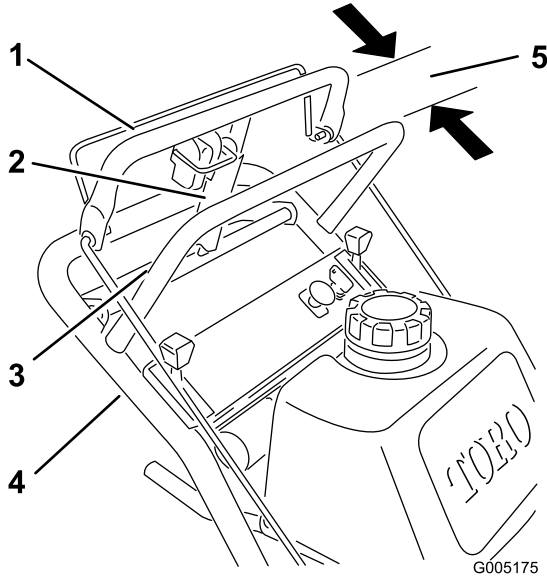

Figure 34
1. Check the gap between upper control bar and the fixed bar with the wheel drive fully engaged. Ensure that the gap is approximately 25-32 mm (1 to 1-1/4 inch) (Figure 34).